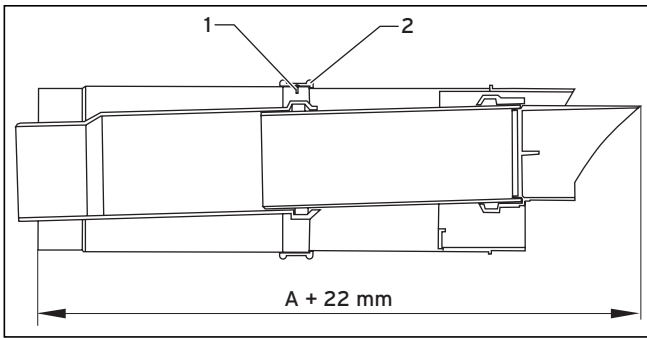

Fig. 2.15 Fixing the air pipe
- Adjust the air duct and flue duct to the lengths shown in (fig. 2.15).
- Secure the air duct sections together by drilling a 3 mm diameter hole through the location hole in the end of the outer air duct (1). (Ensure that the drill does not pierce the inner flue duct). Secure the air ducts together using the screw (1) provided. Place the adhesive tape (2) across the gap in the telescopic extensions. (fig. 2.15)